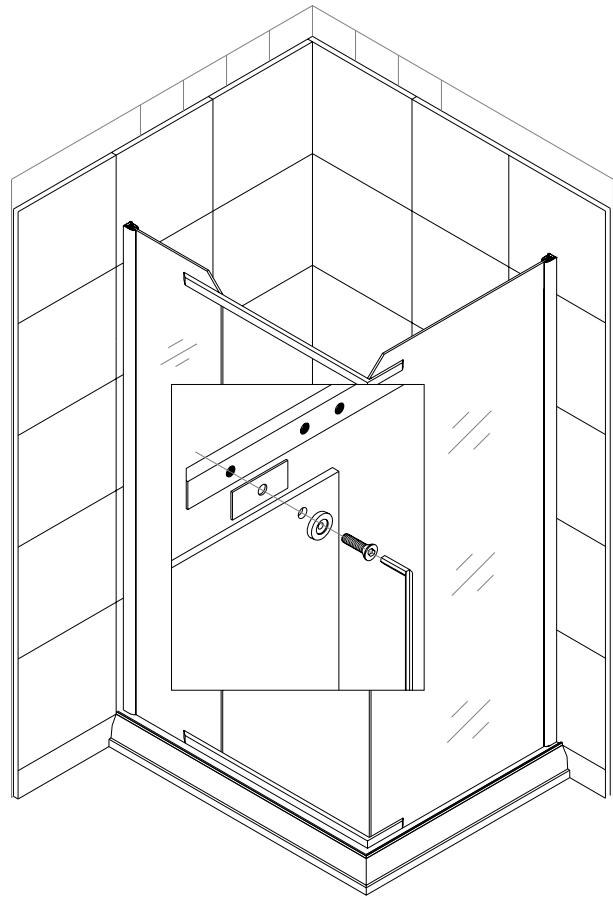

Fig 4
5. Locate the **L-Pivot Bar (5)**, then, locate the parts **(16, 18, 19)** to fasten the L-pivot bar to the stationary panels. Use the clear rubber **gasket (16)** to prevent from glass to metal connection. Secure the stationary glass panels with the **decorative glass holders (19)** using the **M8x20 Flat head bolts (18)** (Fig 4).